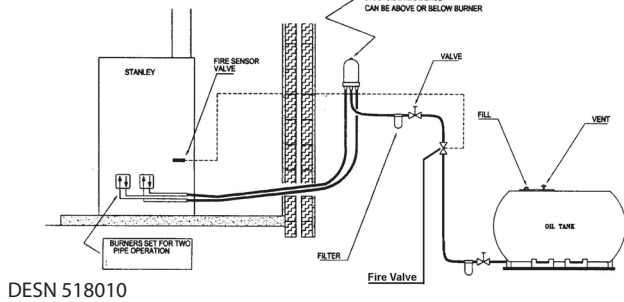

Fig. 9.11
18. Find the correct position of the air control, which gives the highest reading of CO² within the range of the table above without exceeding a smoke No. 0-1 (Bacharach Scale). (See Fig. 9.10 & Fig. 9.11)